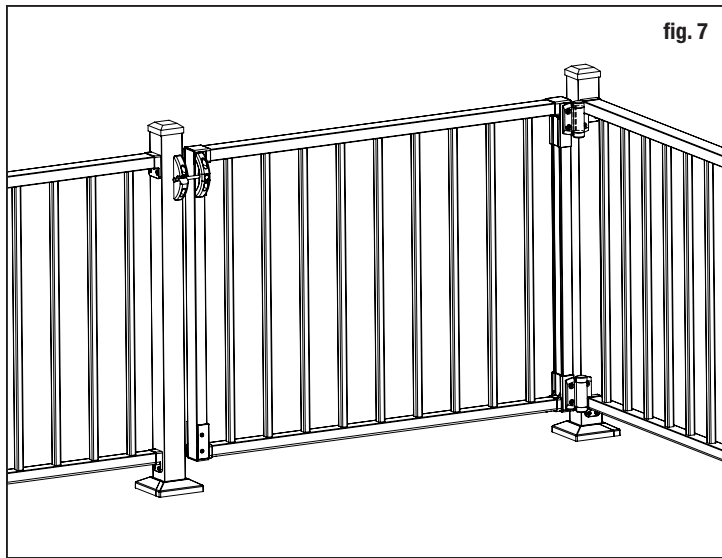
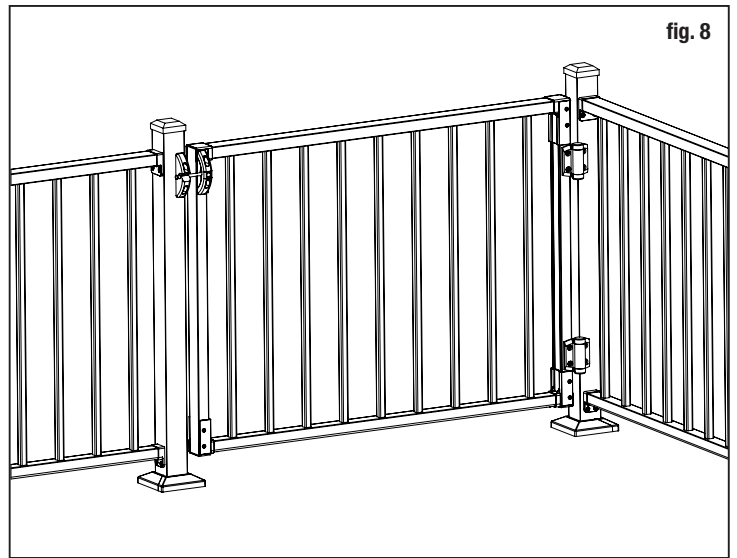

fig. 7
fig. 8
**Note: If you have interference between the gate and rail brackets as depicted in figs. 7 and 10, mount the hinges below the jams shown in figs. 8 and 9 using the extra screws provided.**